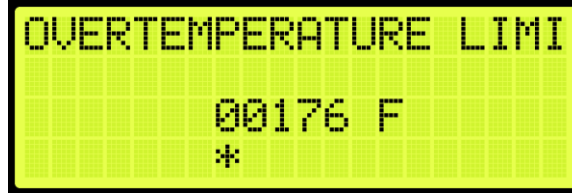

Figure 318: OVERTEMPERATURE LIMIT Menu
5. From the OVERTEMPERATURE LIMIT menu, enter the maximum temperature (See Figure 318).